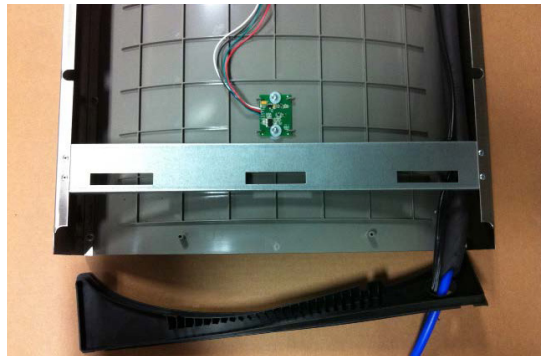

Fig. 9
- 5) Feed power cord & 3/8" water line through hole in tower/basin gasket (See Fig 9).